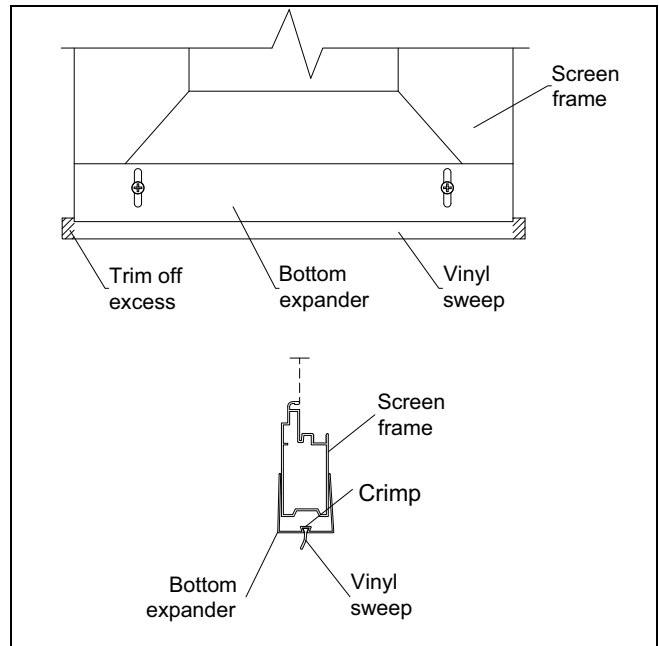

Figure 7
1. Slide the vinyl sweep in the groove of the bottom expander. Push the sweep through to the edge of the expander and trim off any excess. Once you have the sweep in position, using a pliers crimp the ends of the bottom expander slot to prevent the sweep from sliding out. See figure 7.
2. If adjustment of the screen expander is necessary, loosen the mounting screws attaching the expander to the screen panel and move the expander up or down as needed. The door sweep should come in contact with the edge of the Ultrex sill. See figure 7. Tighten the mounting screws when the expander is in proper position.